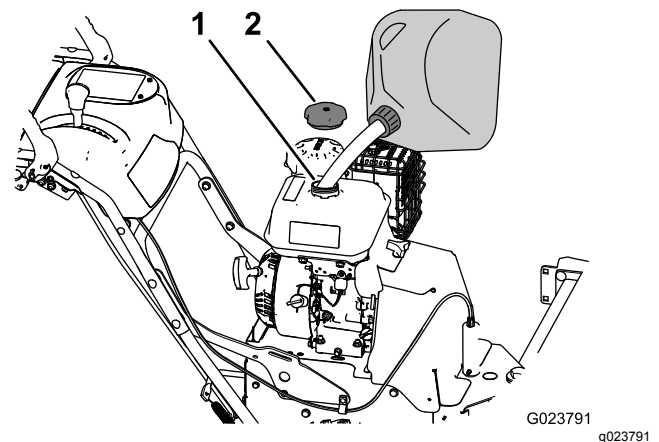

Figure 7
1. Clean around the fuel-tank cap (Figure 7).
2. Remove the cap from the fuel tank (Figure 7).
4. Install the fuel-tank cap and wipe up any spilled gasoline (Figure 7).